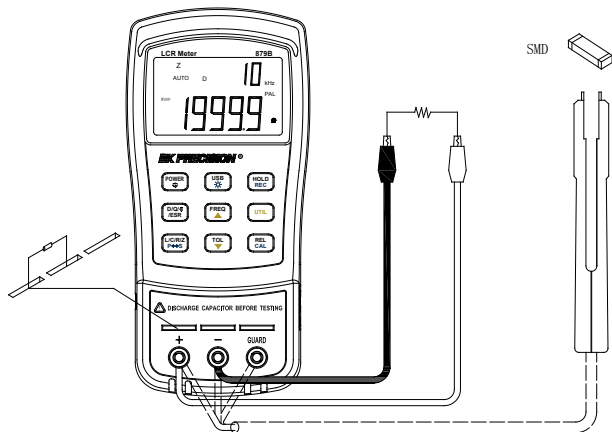

**Figure 12 - Resistance Measurement Setup**
3. Insert resistor or resistive component into the input sockets or connect alligator leads into the banana jack input terminals and connect the clips to the component leads as illustrated in Figure 12.